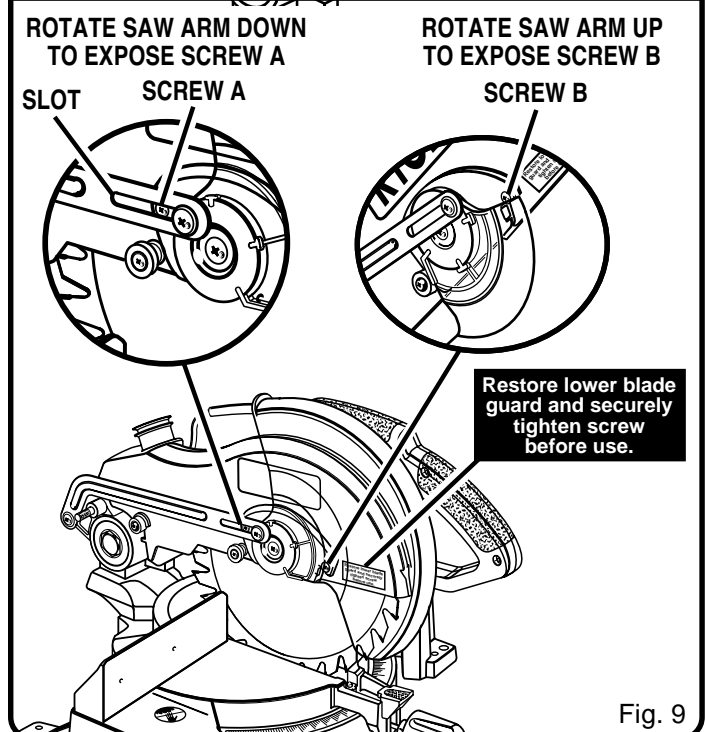

Fig. 9
See Figures 9, 10, and 11.
- Insert the wrench provided through slot in lower blade guard bracket and loosen screw A, securing the blade bolt cover, approximately one-half turn. See Figure 9.